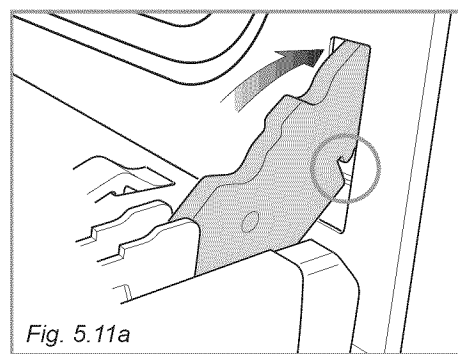

Fig. 5.11a
- Insert the hinge tongues into the slots, making sure that the groove drops into place as shown in the fig. 5.11a.